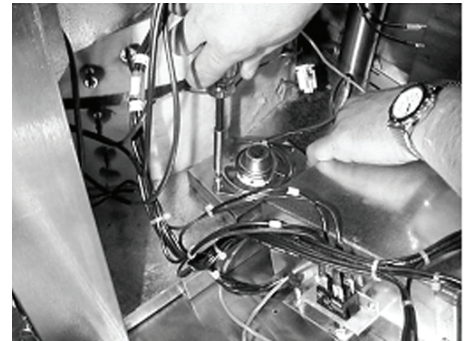

Figure 20
- A. Insert the two vent solenoid extension wires installed in step 9 into the two insulated harness terminals (see figure 20).